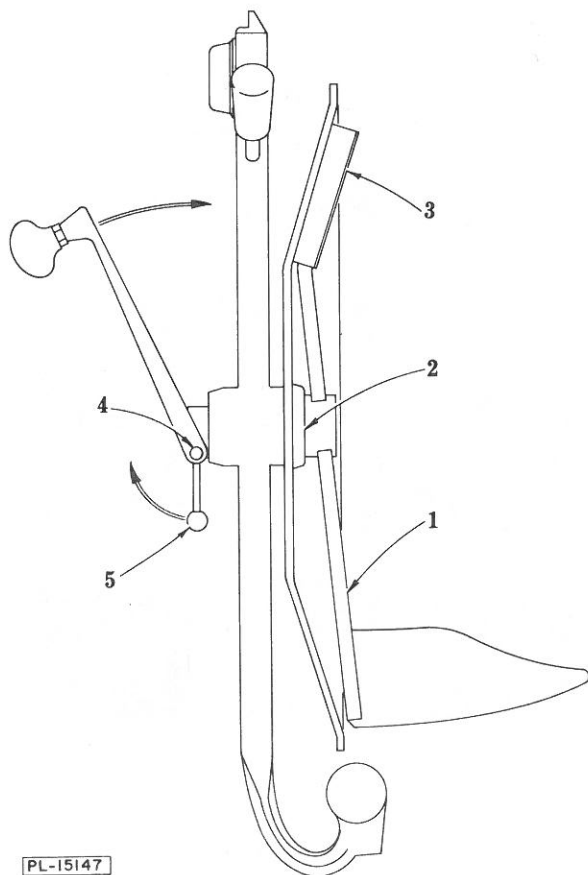

Fig. 8
6. **Mixing Baffle:** Hold the mixing baffle (1, Fig. 8) with right hand and insert center shaft through bearings in center of lid (2, Fig. 8). The mixing baffle handle retains the mixing baffle with a locking device (5, Fig. 8). Swing the locking device knob away from the body of the handle. Place the cross pin in the notch of the baffle shaft (4, Fig. 8). Move the locking device knob toward the mixing baffle knob until locking action is encountered. This supports and secures the baffle to the lid.
7. **Lid Scraper:** If lid scraper (3, Fig. 8) is used, slip it over the mixing baffle extension bar directly below the handle inside the lid.